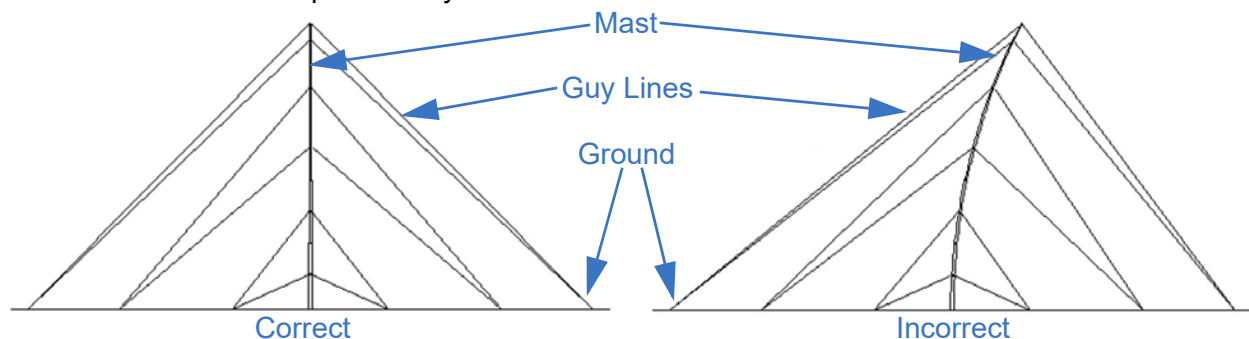

Figure 6-8 Vertically Align the Mast (Sample Shown with 6 Level Guying)
16. If guy lines are used, properly secure and tension the guy lines immediately after raising the mast. The installer shall verify the guy anchor point strength is adequate to support the guy line forces. All guy lines should be equally tensioned. Beginning at two locations opposite each other, gradually tension each guy line. Vertical alignment of the mast is accomplished by observing the mast perpendicularly to the two guy lines being tensioned to ensure the mast is standing straight, and is not bending too far towards one side (Figure 6-8). Adjust the appropriate guy line as necessary to keep the mast plumb vertically. Check one day after initial install. Check periodically afterwards.